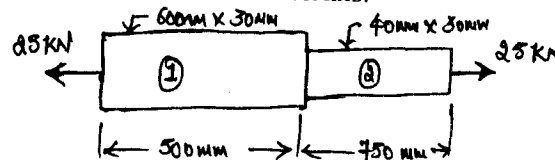

Fig Q1(b)
b. The stepped bar shown in Fig Q1(b) is subjected to a pull of 25kN. The bar is made up of two different materials having Young's modulus $E_1 = 200\text{GPa}$ and $E_2 = 100\text{GPa}$. Find the extension of the bar and stresses in each materials. (06 Marks)